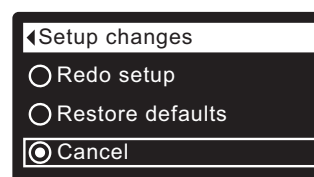

FIG. 100
7. Press the SELECT (O) button to display the Setup changes menu (See Figure 100).
8. If the desired option already has a dot next to it (See Figure 100), go to Step 9. Otherwise, press the DOWN (▼) or UP (▲) buttons to scroll to the desired option, then press SELECT (O) to choose it.